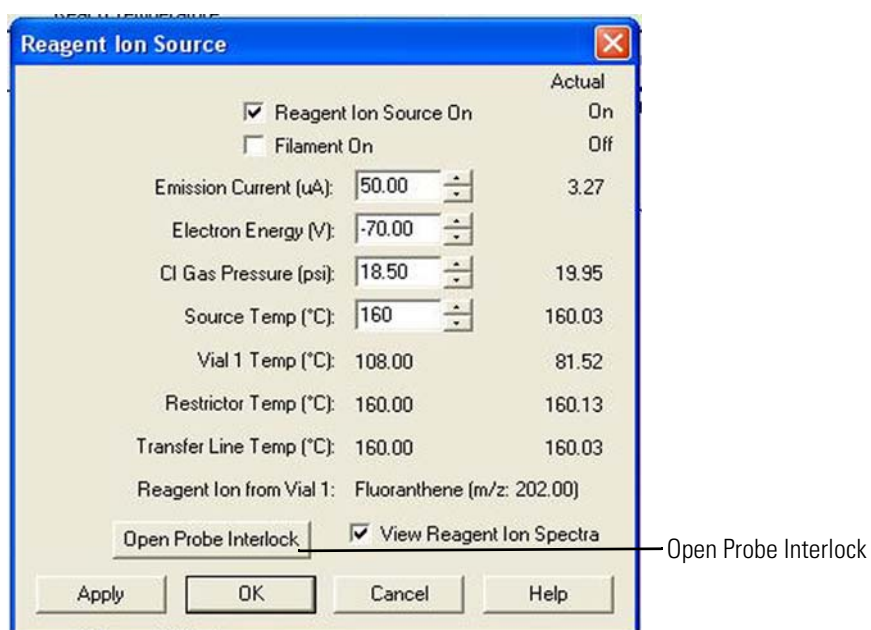

Figure 6-17. Reagent Ion Source dialog box, Open Probe Interlock button.
2. Open the Reagent Ion Source dialog box (Figure 6-17 on page 6-29) in Tune Plus by clicking the Reagent Ion Source instrument control icon.
- e. Click **Open Probe Interlock** in the Reagent Ion Source dialog box (Figure 6-17). A message box appears that tells you that the probe interlock is being pumped down. The target pressure is <0.1 mTorr. If a pressure of 0.1 mTorr or less is not obtained, replace the inlet valve seal as described in "Replacing Inlet Valve Components" on page 6-47. When the target pressure is achieved, a message appears that tells you that the ball valve can be opened (Figure 6-18).
- d. Click **Open Probe Interlock** in the Reagent Ion Source dialog box (Figure 6-17 on page 6-29). A message box will appear stating that the probe interlock is being pumped down. The target pressure is <0.1 mTorr. If a pressure of 0.1 mTorr or less is not obtained, the inlet valve seal must be replaced as described in “Replacing Inlet Valve Components” on page 6-47. When the target pressure is achieved, a message will appear stating that the ball valve can be opened. See Figure 6-18 on page 6-29.